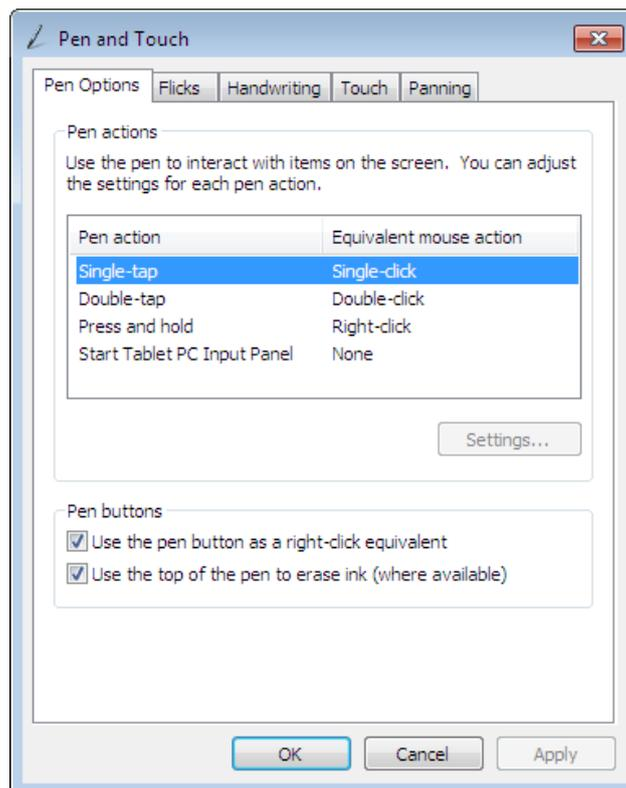

Figure 3-29
1) After checking "Enable Multipoint-Touch" and go to parameter setting. There is "Pen and Touch" setting interface (which comes with Windows 7) (Figure 3-29) where detailed settings are available for pen and touch.